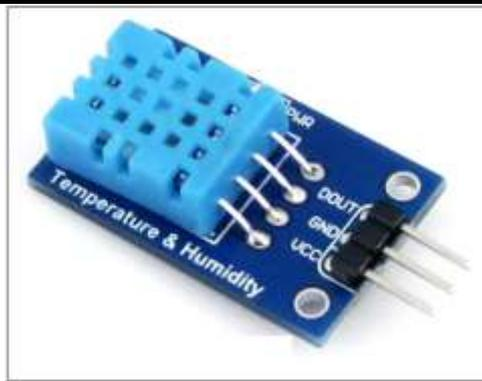

Figure 3: DHT11 Sensor
Temperature and humidity can be measured easily using the DHT11 sensor. It captures the value of temperature (T) and humidity (H) using optical signal. It measures temperature and humidity values as serial data using the Negative Temperature Coefficient (NTC) concept. It can measure temperature from 0 °C to 50 °C and humidity from range 20 % to 90 %. It provides easy installation, reliable quality, quick response, anti-interference in terms of measurement, and a low price [12] that we can see in below Figure 3.